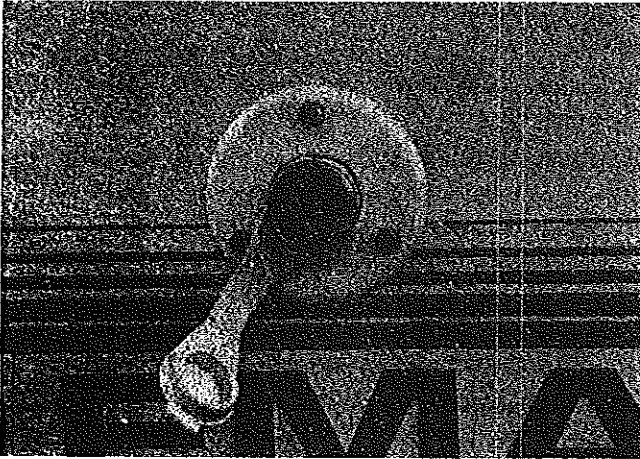

FIGURE 46
51. When the campsite provides a pressurized water system: Remove the protective cap from the external pressure water connector. See Figure 46. Attach a non-toxic garden hose (not furnished) between the external trailer connection and the campsite-furnished faucet.